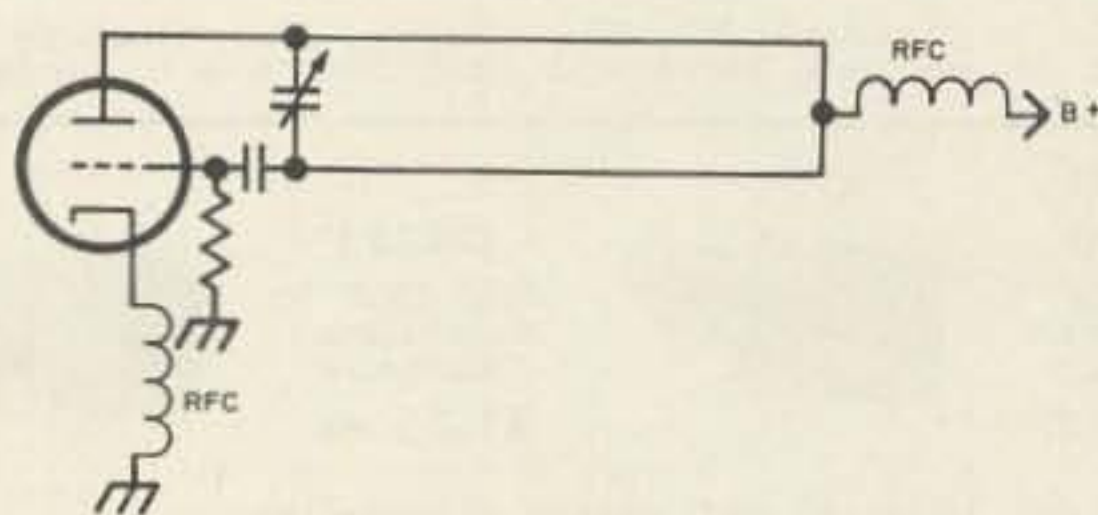
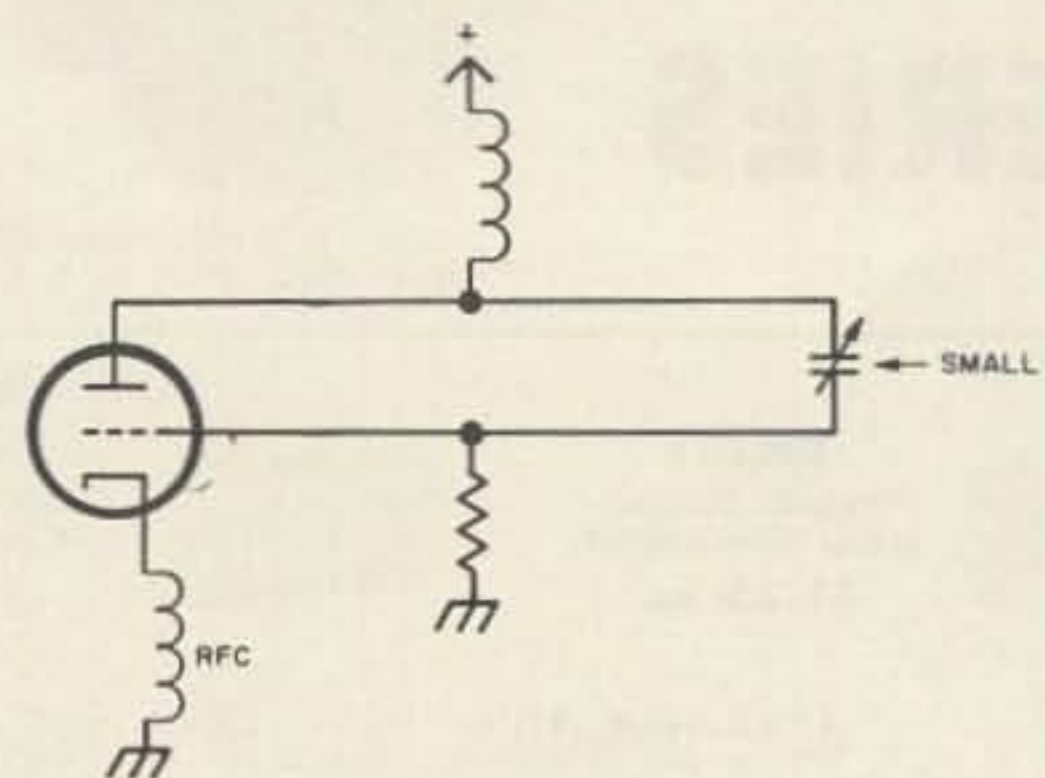

Fig. 1. Quarter wave oscillator.
Fig. 2. Half wave oscillator.
3. Half-wave lines: Let's try it this way. Half wave lines are well known but wait and see what happens when you add all together. Fig. 1 shows a simplified circuit of a 200-300 mc quarter wave line oscillator. Note that the "line" is acting like the old familiar pre-war ultra-audion circuit, with the plate on one end and the grid (out of phase, which is of course correct) on the other. This works fine up to a point. This is where the line shorting bar has arrived in the vicinity of the socket and grid capacitor. If you squeeze everything like mad it will go well over 500 mc, but don't use this circuit there! Fig. 2 shows a much better way. Note that now there is a half wave line on *each* line, so that if you consider the phase out and back you could call it a "full-wave oscillator". The trick now is that you can jam the first quarter wave right into the tube and, as in Fig. 3, you can still tune it with an "ordinary" (one that you can buy ready-made) capacitor! Even to 1400 mc! With the smallest Hammarlund butterfly type, 2 stator and 3 rotor plates, it tunes from well below 1100 mc to over 1300.
4. Don't go away yet. There are still some other ingredients. The shape of the lines next. As you go up in frequency towards microwaves (1400 mc) you will find more and more that the configuration of what you are using becomes of greater and greater importance. This leads eventually to waveguides but these are not in today's lesson. However, the use of flat opposed straps of thin brass (should be silver-plated) for the "lines" in Fig. 3, which is the same as Fig. 2 but going up in frequency, is a must.